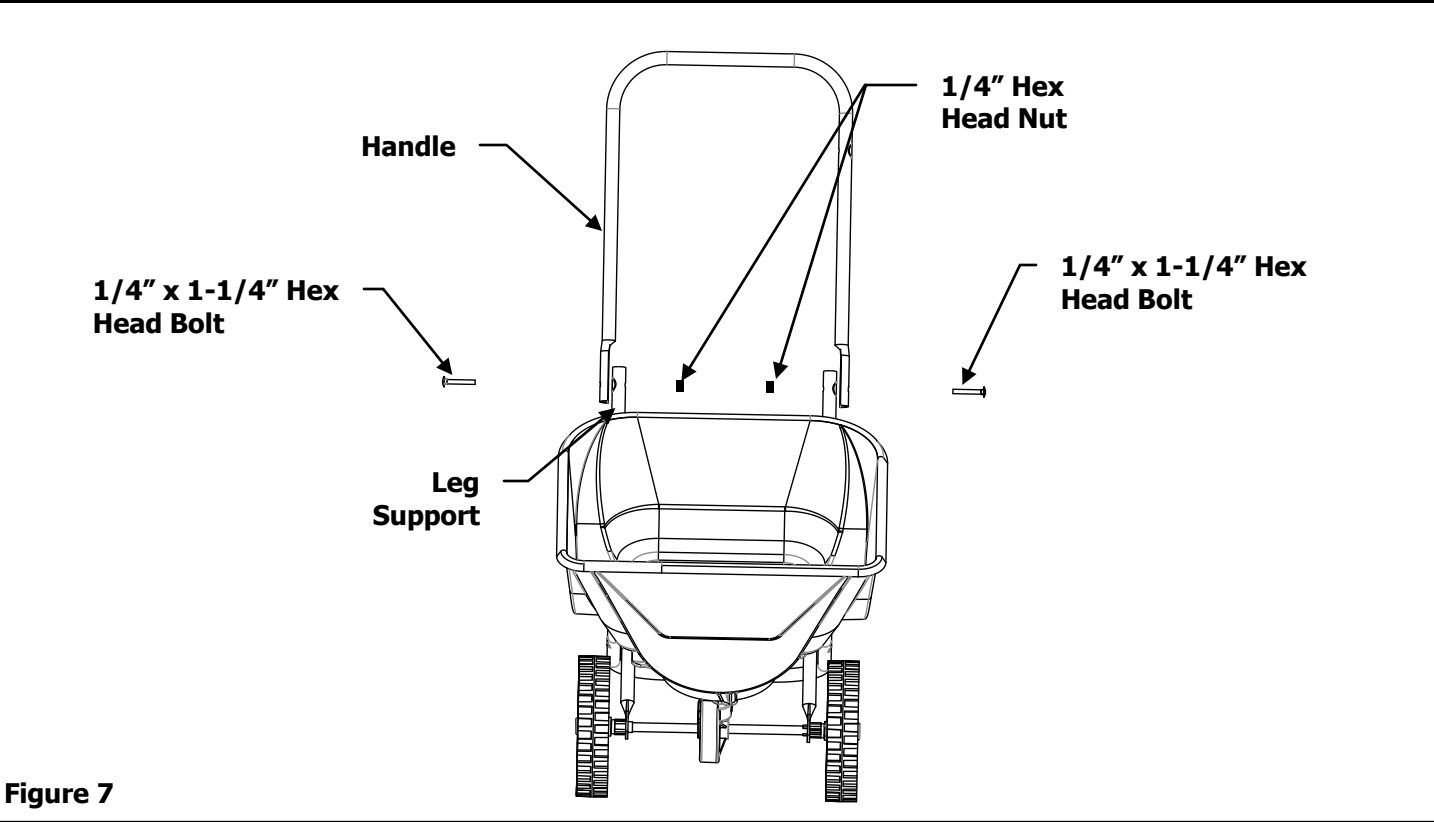

Figure 7
7. Attach the Handle to the Leg Stand, using two 1/4" x 1-1/4" Carriage Bolts and two 1/4" Hex Head Nuts. Insert bolt into hole in Handle and Leg Support. Secure with 1/4" Hex Head Nut. Repeat process on other side. See Figure 7.